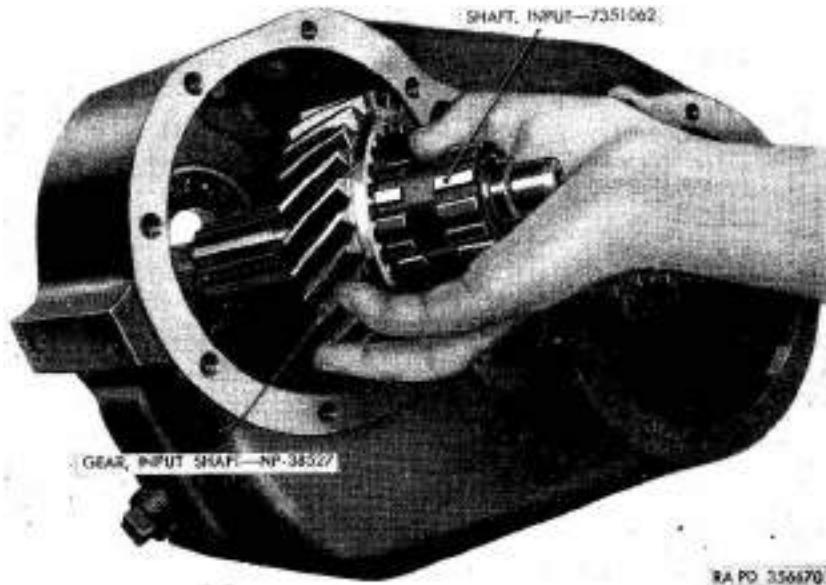

Figure 133. Removing input shaft and input shaft gear.
- (2) Remove 29/32 II, 13%, OD, plain washer (AD) and companion flange (AE) from input shaft (BD). Exercise care to prevent shaft from slipping out of input shaft gear (AW).
- (3) Grasp input shaft and gear (fig. 133) and remove them from transfer case. Keep shaft, gear, and input shaft gear rollers (AX and AZ) together to avoid loss of rollers.
- (4) Perform the following disassembly procedure over a container to avoid the loss of rollers. Remove input shaft gear outer thrust washer (AV), gear, rollers, input shaft gear roller spacer (AY), and input shaft gear inner thrust washer (BC) from input shaft.